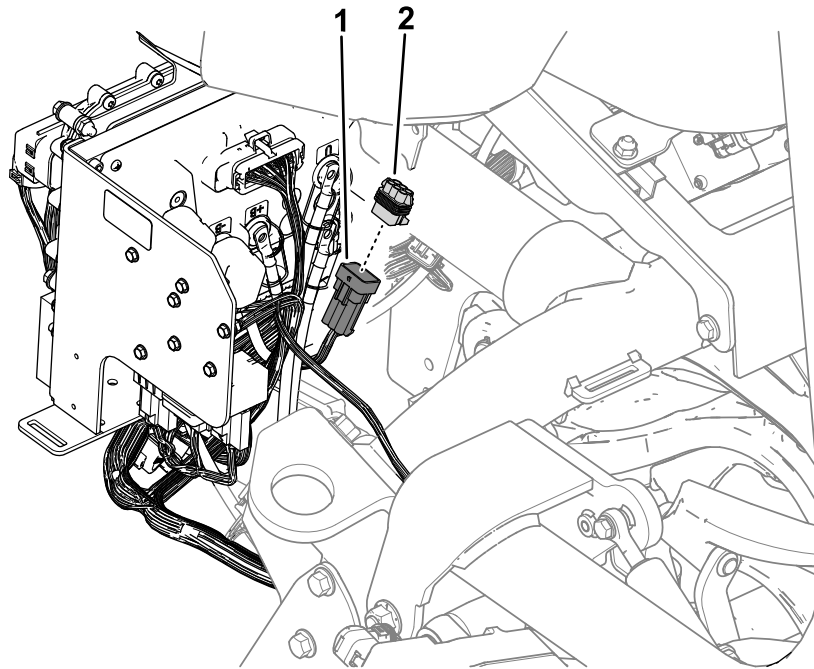

Figure 46
4. Install the 6-socket cap to the wire-harness connector labeled P50 (Figure 46).